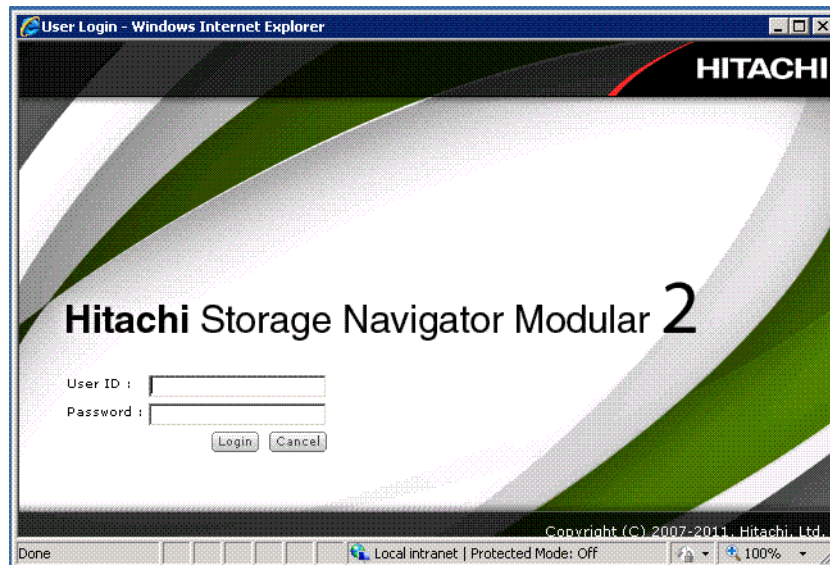

Figure 4-1: Login page
3. At the login page (see Figure 4-1), type **system** as the default User ID and **manager** as the default case-sensitive password.